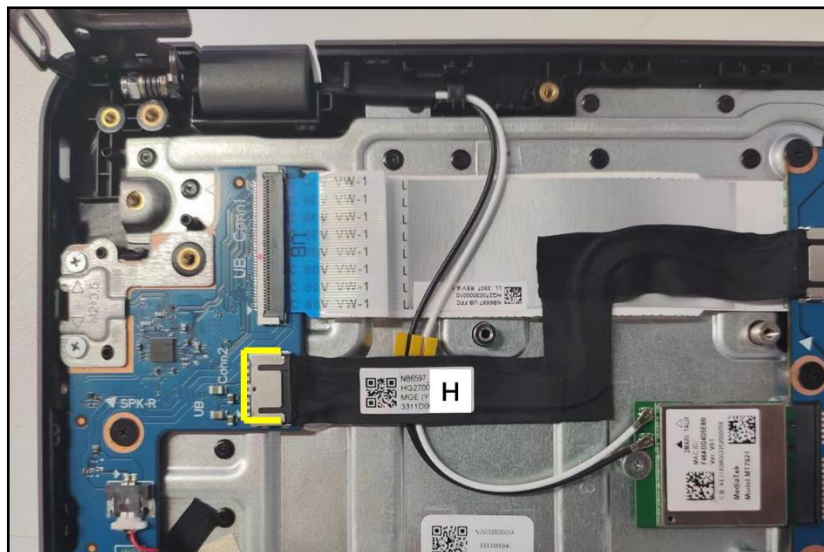

Figure 3-99. Replacing the USB Board
6. Connect the USB board UB CABLE (H) to the mainboard and USB board connectors (Figure 3-99).